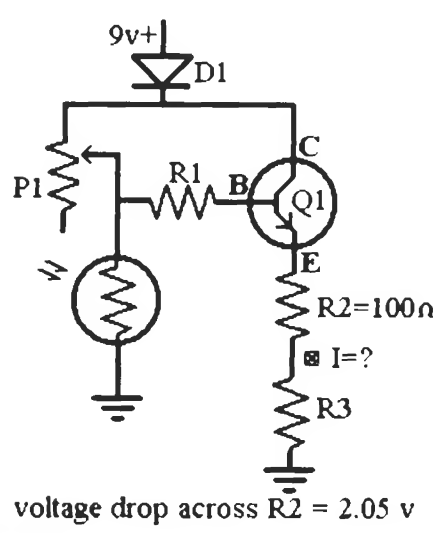

Figure L46-9
15. Use Ohm’s law to calculate the amount of current passing from C to E in Figure L46-9.